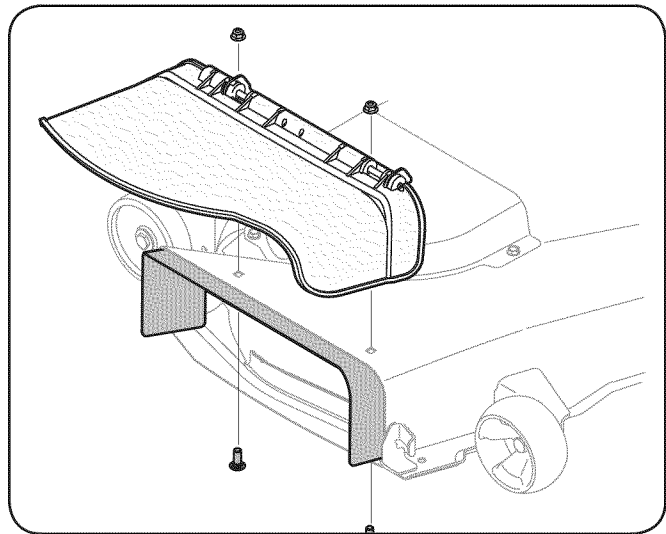

Figure 4-19
- Install the chute discharge plate to the bottom side of the deck opening, as seen in Fig. 4-19, using two carriage bolts (710-3168) supplied in hardware pack 689-00094A.